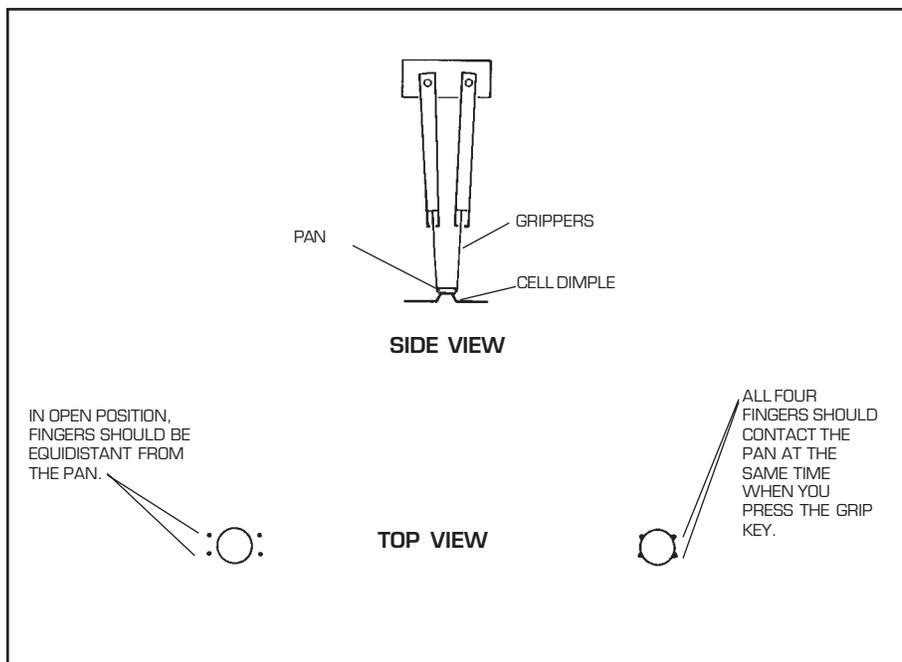

Figure 4.2
8. Use the motion keys to position the pan in its correct calibration position (see Table 4.1). Press the RELEASE and GRIP keys repeatedly to ensure that the fingers can firmly grasp the pan, and watch carefully to ensure that each finger contacts the pan at the same time (see Figure 4.2).
15. When the turret stops moving, close and open the grippers again and check your calibration against the criteria in Figure 4.2. Remember to release the pan. If the position is correctly calibrated, go on to step 16. If it is not, repeat steps 3 through 15.
21. Use the motion keys to position the pan in its correct calibration position (see Table 4.1). Press the RELEASE and GRIP keys repeatedly to ensure that the fingers can firmly grasp the pan, and watch carefully to ensure that each finger contacts the pan at the same time (see Figure 4.2).
28. When the turret stops moving, close and open the grippers again and check your calibration against the criteria in Figure 4.2. Remember to release the pan and raise the turret out of the cell with the RAISE key.